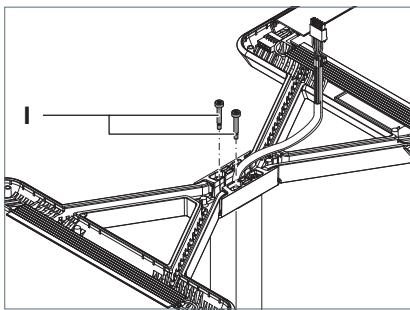

Fig. 9: Fixing luminaire head 2 in place.
- ▶ Tighten the two adjusting screws **I** until the screw heads are flush with the adapter, see Fig. 9.